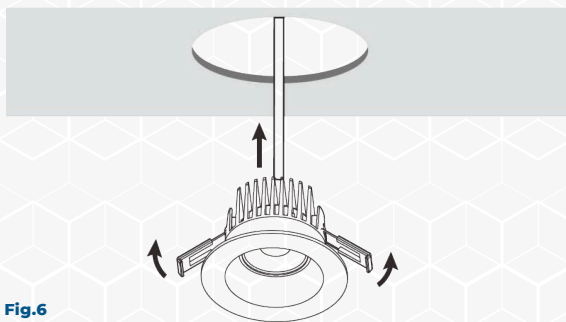

Fig.6
3. Push spring loaded clips on the fixture upwards and insert fixture base into the mounting hole. Release the clips and fixture will be pulled flush to the ceiling. (see Fig.6)